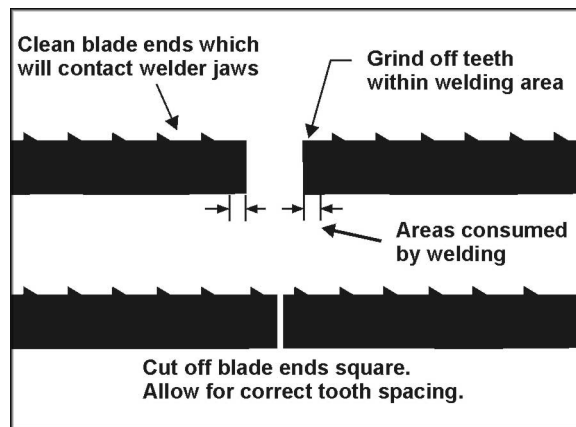

Figure 16
2. Position the blade so that the cut is made at a place that allows for uniform spacing of the teeth. See Figure 16.
In fine pitched blades, one or more of the teeth on each side of the cut may need to be removed by grinding so that the weld area of the blade is uniform and the teeth will be uniformly spaced. See Figure 16.